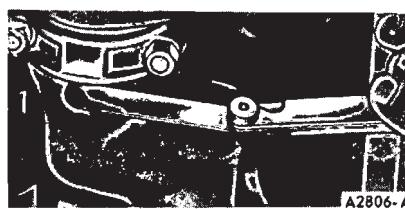

FIG. 32—Typical Connecting Rod Side Clearance
8. After the piston and connecting rod assemblies have been installed, check the connecting rod side clearance on each crankshaft journal (Fig. 32).